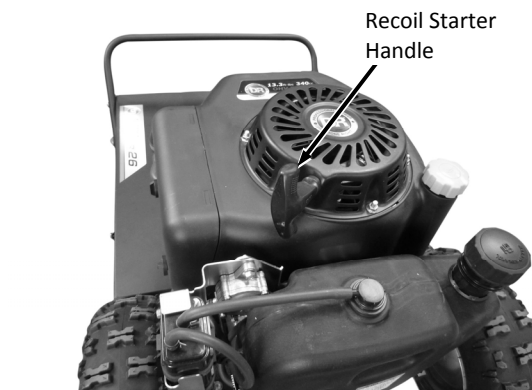

Figure 14
3. Grasp the recoil starter handle and slowly pull until you feel resistance (Figure 14). Let the cord retract a little bit, then pull the cord rapidly to start the engine. One or two pulls usually starts the engine.